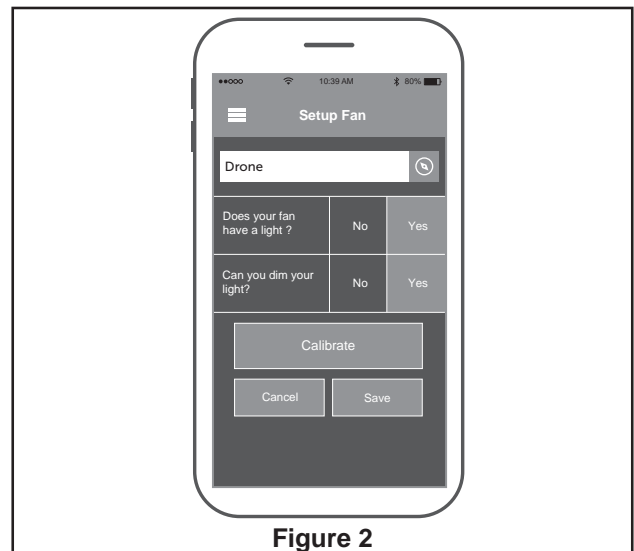

Figure 2
1. Securely attach the ceiling junction box **acceptable for ceiling fan support** into the building structure. Junction box is not supplied with the fan. (Figure 2)
- 2. Assemble the lower blade plate to the blade by aligning holes of the lower blade plate with the blade holes on the bottom of the fan and using the tapping screws. (Figure 2)
2. Remove the three screws from the motor coupler assembly. Assemble the wire tray assembly to the coupler using the removed screws and securely tighten all screws. (Figure 2)
2. Connect wires using connectors as shown in Figure 2.
- 2. Push the wire tray assembly up to ceiling bracket assembly. (Figure 2)
- 2. Restore electrical power to the outlet box by turning the electricity on at the main fuse box. (Figure 2)
2. Press Save and your fan will be ready to operate (Figure 2)